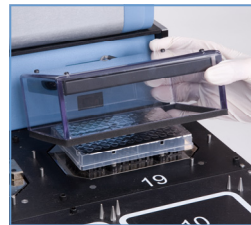

Figure 5. Place lid over block in position 19.
3. Using a timer, denature the DNA for 5 minutes at 95 °C. Cover the block with the pre-heated lid (Figure 5) to minimize condensation.
9. Seal the sample plate again, place in position 19 and cover with a lid pre-heated to 37 °C (Figure 5). Incubate samples for 2 hours at 37 °C.